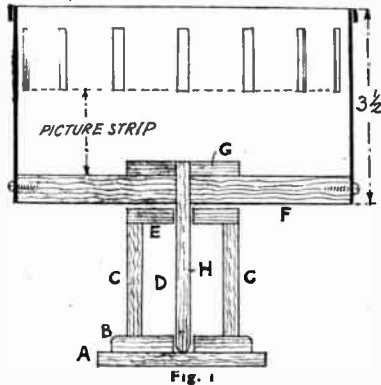

Fig. 1
The first consideration in commencing to make the toy will be the pedestal and base, and this takes the form of a hollow box of four sides, a single flat top and two pieces to form the lower base. In Fig. 4 an exploded view of the seven parts is given. The lower piece (A) in Fig. 1 measures 3 ins. square by $\frac{1}{4}$ in. thick, piece (B) glued on top of it is $2\frac{1}{2}$ ins. square and the same in thickness. In the centre of the latter piece there is a hole $\frac{1}{8}$ in. in diameter to take the end of the centre spindle.